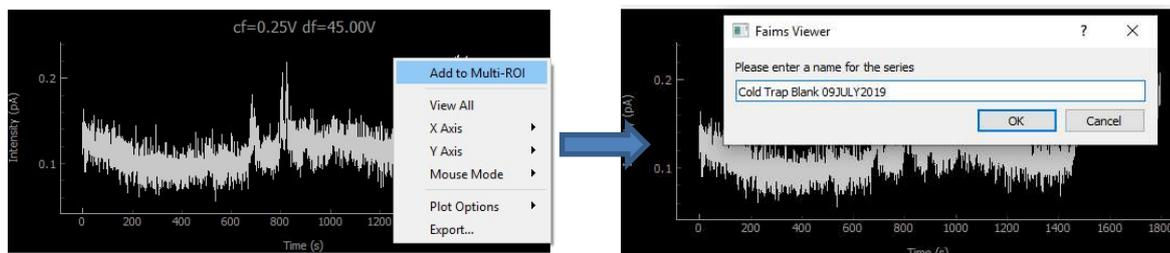

Figure 9. How to add a chromatograph plot in the overlay. In this example a cold trap blank will be used.
3.3.1 Follow steps described in sections from 3.2.1 to 3.2.4 3.2.4 to visualize a chromatograph. Right-click on the positive mode 2D CV sweep and select “Add to Multi-ROI”. Enter the name of the series and press “OK” (Figure 9).